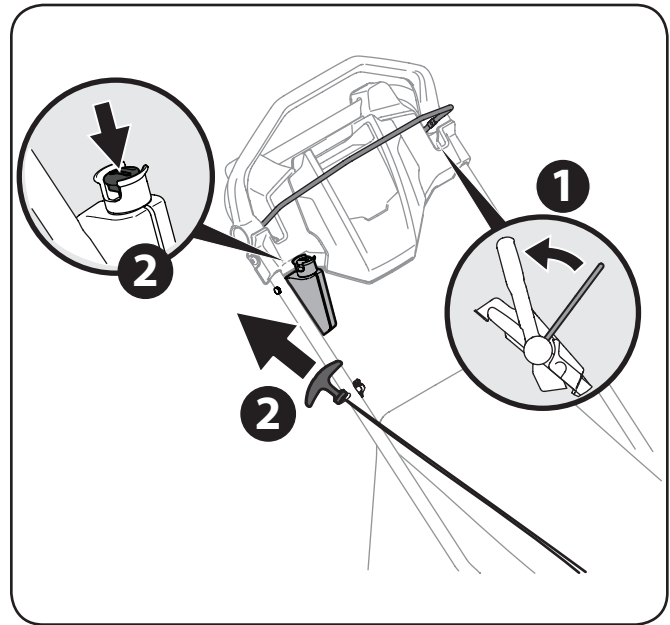

Figure 5-1
1. Standing behind the mower, pull the blade control back against the drive control. See Figure 5-1.
Electric Start (If Equipped): Insert plastic push key into starter button until it snaps in. Push the electric starter button to start the engine. See Figure 5-1.